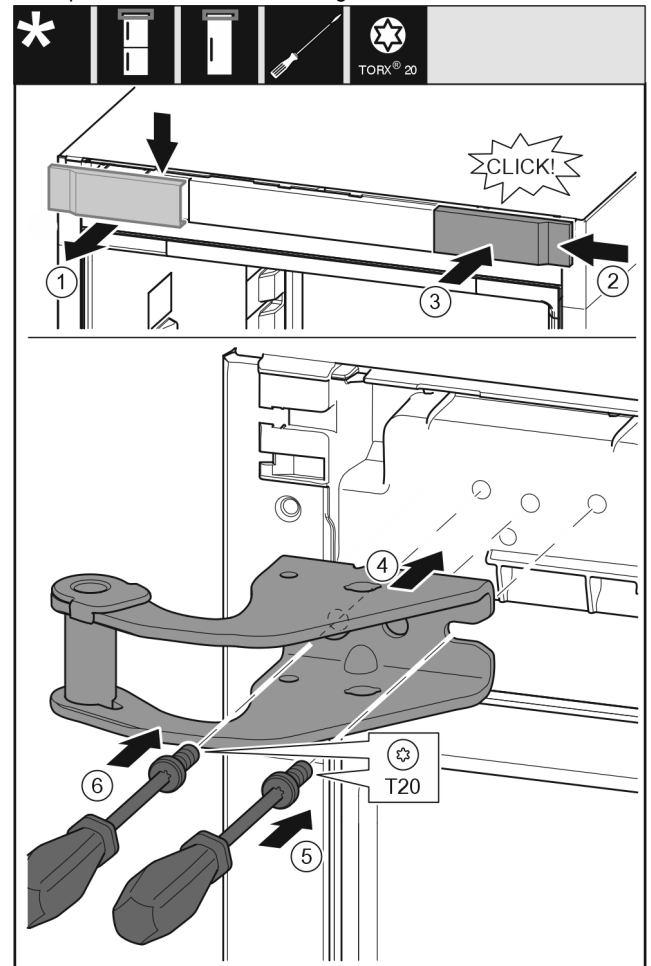

Fig. 14
► Remove the cover Fig. 14 (1) from above towards the front.
► Turn the cover Fig. 14 (2) by 180° and attach to the other side from the right.
► Engage the cover Fig. 14 (3).
► Place the top swap bearing block Fig. 14 (4).
► Use screwdriver Fig. 14 (5) to place the screw and tighten it.
► Use screwdriver Fig. 14 (6) to place the screw and tighten it.